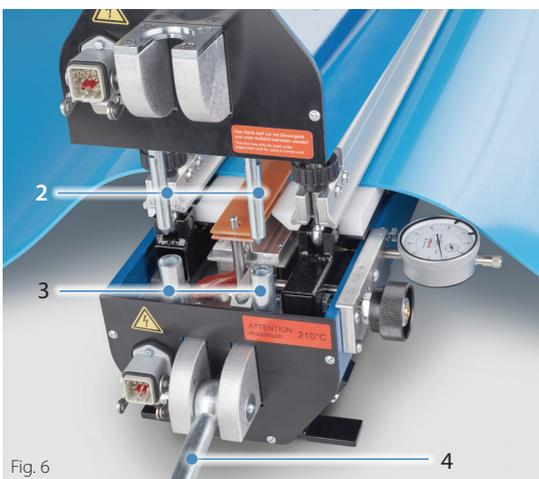

Fig. 6
- Place the top half of the press with the help of the centering bolts (2) into
the center hole (3) on the bottom part of the press. (Fig. 6)
- Tighten the eye bolts (4) and collar nuts by hand to join the top and
bottom part of the press with each other (no tools required). (Fig. 6)